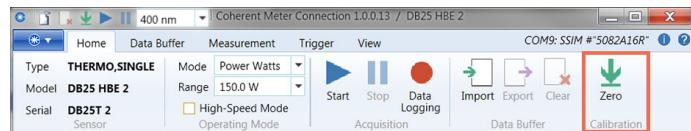

Figure 7-10. Zero to Set Baseline
4. **[Home tab]** Press the **Zero** button shown in Figure 7-10 to measure a baseline value for the sensor. A dialog box displays the zeroing process; this takes only a few seconds.